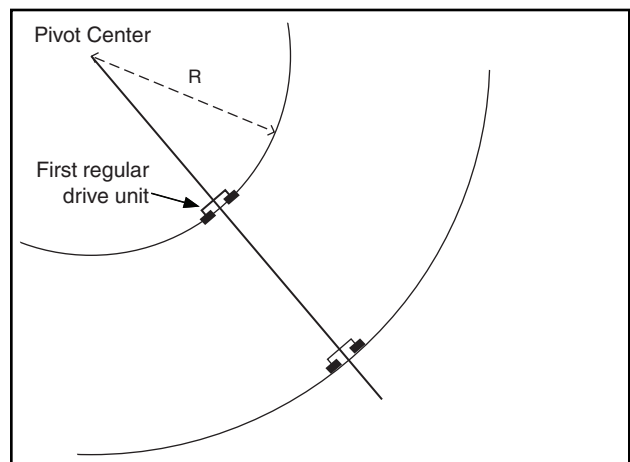

Figure 31-4
6. Measure the distance in feet from the center of the pivot to the centerline of the tire on the first regular drive unit. This distance is R. See figure 31-4.